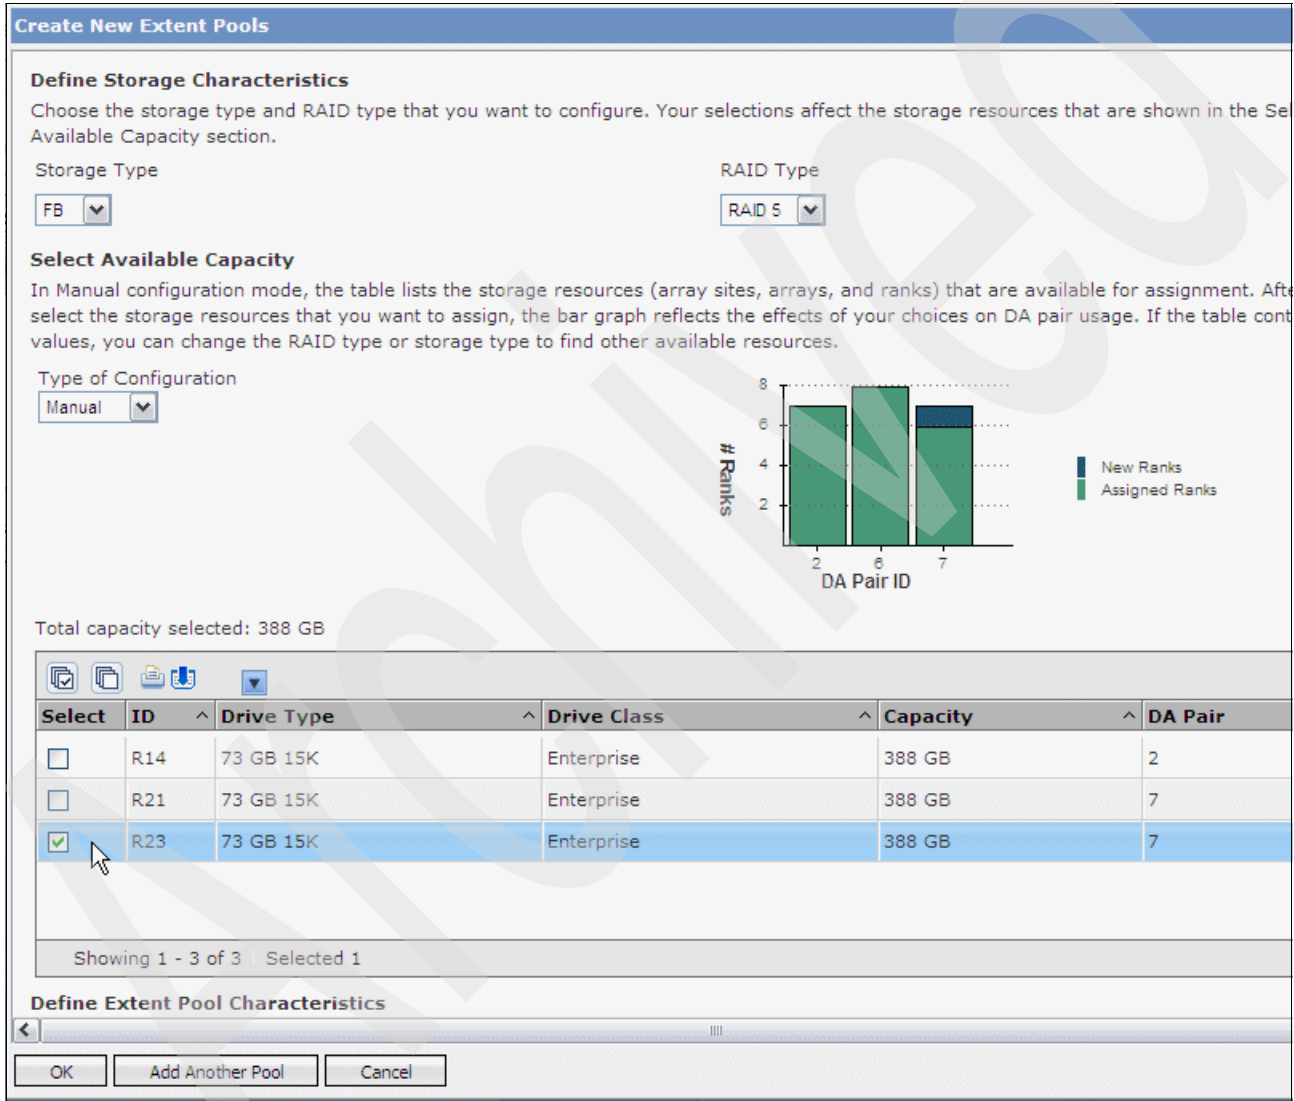
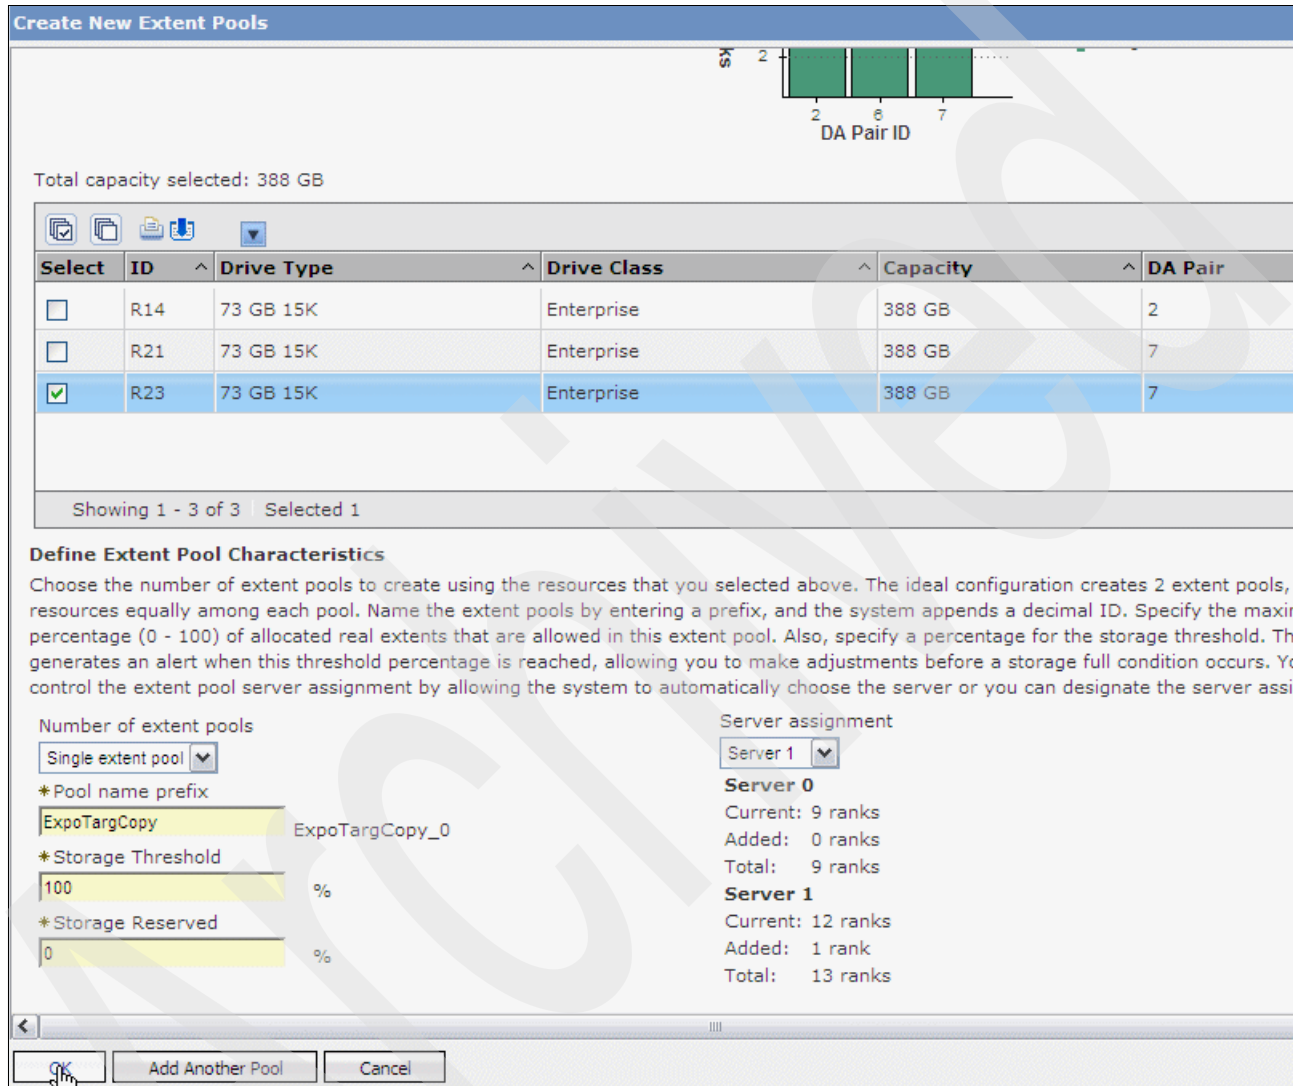

Figure 10-5 DS8000 Storage Manager Create New Extent Pools panel (upper)
Figure 10-6 DS8000 Storage Manager Create New Extent Pools panel (lower)
5. The Create New Extent Pools panel displays (as shown in Figure 10-5 and Figure 10-6). In this panel:
- a. Select FB for **Storage Type**, and select the **RAID Type** according to the type of RAID protection that is chosen for the arrays/ranks created before (see Figure 10-5).
- b. Choose Manual for **Type of Configuration**. All of the ranks that have not been allocated to any extent pools will be displayed in the table (Figure 10-5). Choose only one of the ranks that are available in the table (R23 in our example).
- c. Scroll down your window to see another option in the panel (see Figure 10-5 and Figure 10-6).
- d. Select Single extent pool for **Number of extent pools**. Give a descriptive pool name prefix. Here we use *ExpoTargCopy* so that we can identify how this extent pool is used. Use **100** for **Storage Threshold** and **0** for **Storage Reserved** (see Figure 10-6).
- e. Select the server with which this extent pool to be associated for **Server Assignment**, and select **Add Another Pool** for continuing creating other extent pools or select **OK** to create only this extent pool (see Figure 10-6).